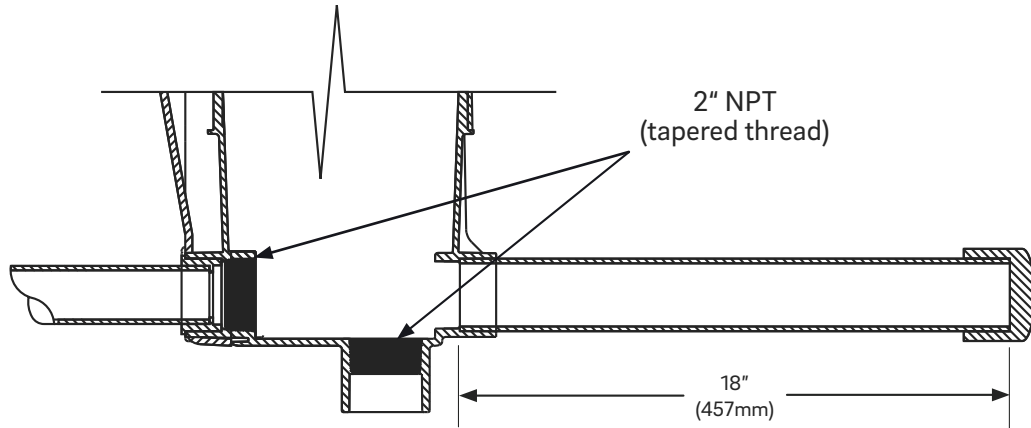
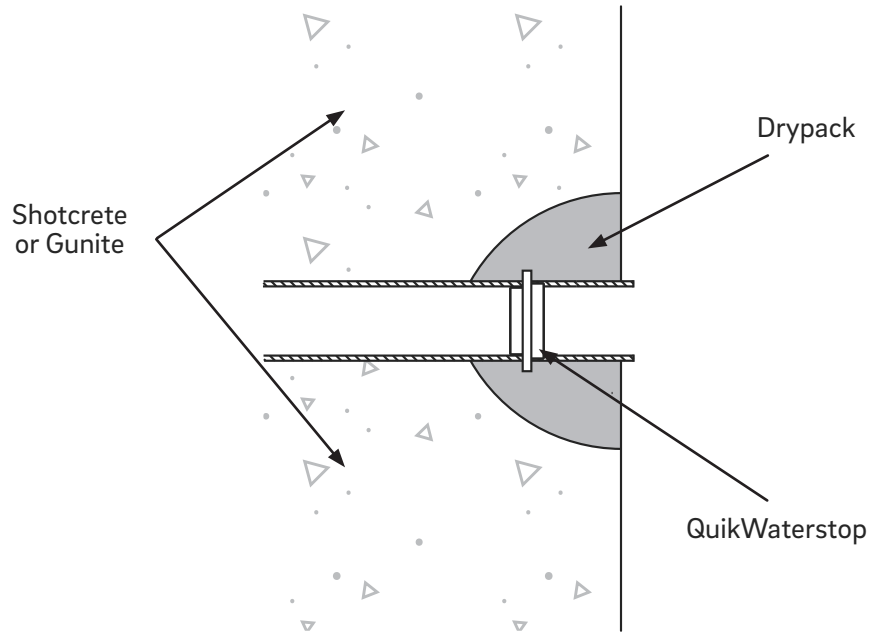

Figure 3
Figure 8
1. Glue an 18 inch length of 2 inch schedule 40 PVC pipe into the discharge port of the QuikSkim Ultra located at the lower front, below the mouth of the skimmer. Cap the end to prevent concrete from entering during the shotcrete or gunite process (Figure 3).
- Once the shotcrete is complete, cut the capped pipe that was installed on the venturi discharge line (Figure 3) so that it will be flush with the finished surface. Glue the pipe and slide the QuikWaterstop (Figure 9c) over the pipe, allowing enough room to dry-pack behind it to ensure a waterproof seal (Figure 8).